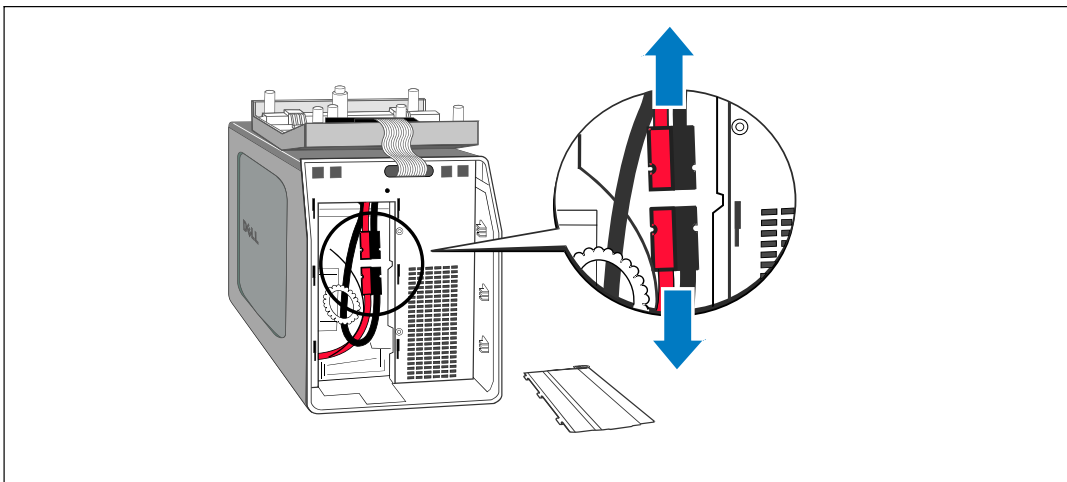

Figure 26. Disconnecting the Internal Battery Connector
- 4 Disconnect the internal battery connector (see Figure 26).